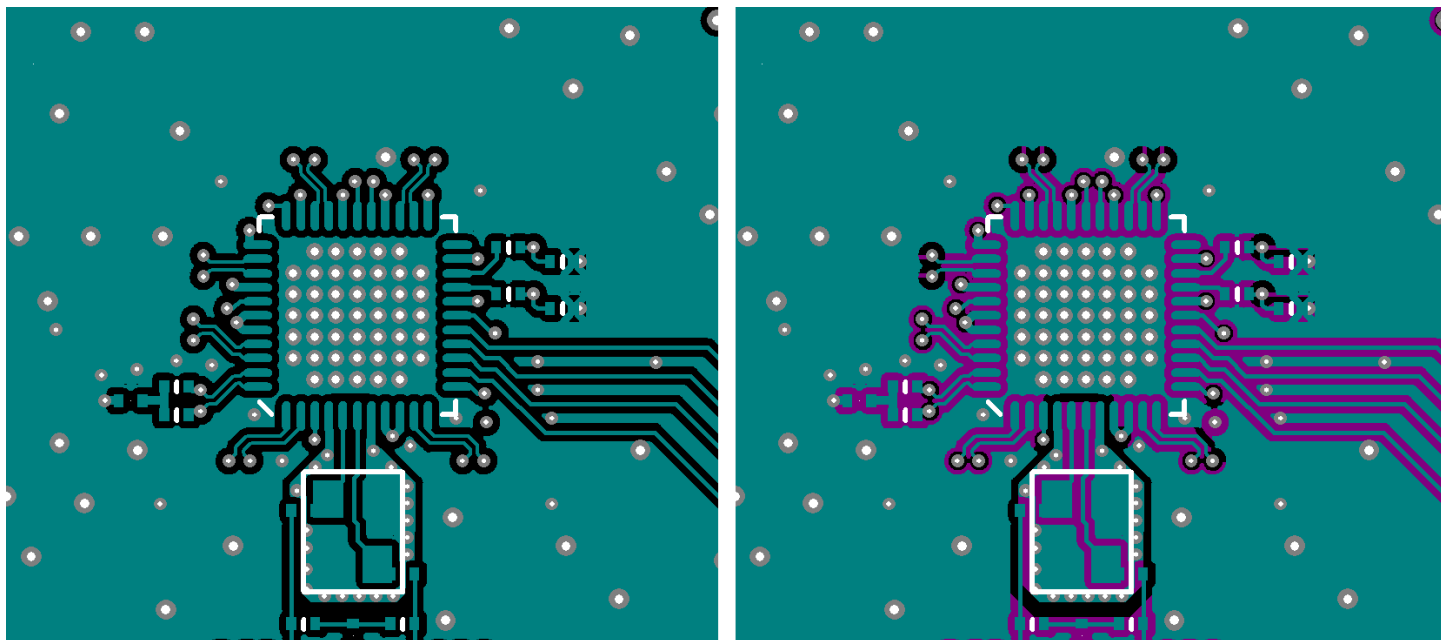

Figure 12.9. Device Layer (Layer 1)
3. Connect the crystal's GND pins to the DUT's X1 and X2 pins via a local crystal GND shield placed around and under the crystal. See Figure 12.9 Device Layer \(Layer 1\) on page 84 at the bottom left for an illustration of how to create a crystal GND shield by placing vias connecting the top layer traces to the shield layer underneath. Note that a zoom view of the crystal shield layer on the next layer down is shown in Figure 12.10 Crystal Shield Layer 2 on page 85.